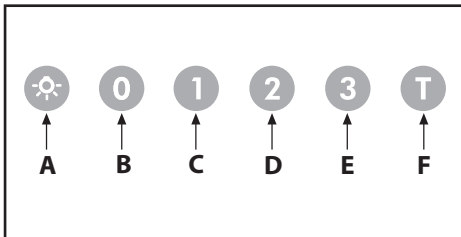

Fig.10
• **Commands** (Fig.10) **luminous** the key symbols are explained below: